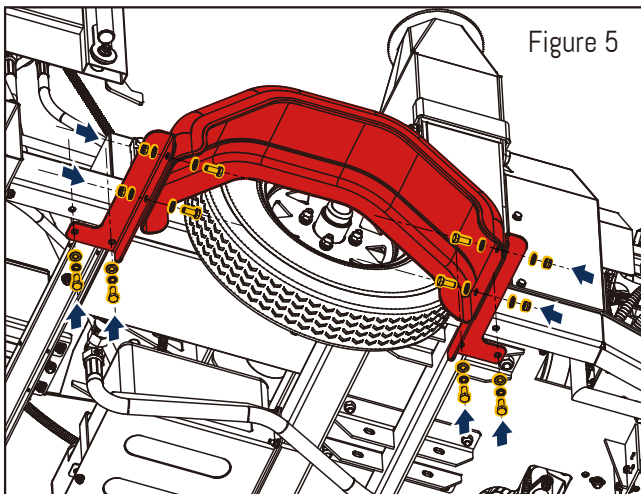

Figure 5
2. Attach the mudguard to the mudguard bracket 1 and the mudguard bracket 2 using M10x25, flat washer 10, and lock nut M10. (See Figure 5)